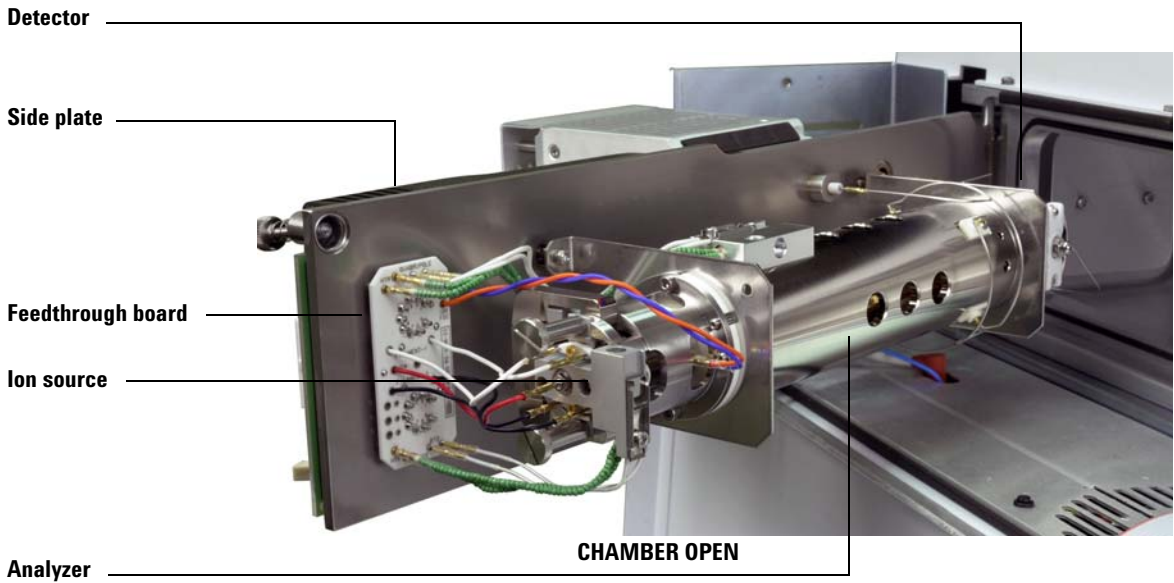

Figure 26 The analyzer chamber
- 4 Loosen the side plate thumbscrews (Figure 26) if they are fastened.